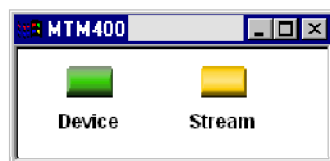

Figure 3: Hotspot view (RUI v2.6.1 and below)
6. After you log on to the monitor, the Hotspot view is displayed. (See Figure 3.) Click **Device** to open the Device view.